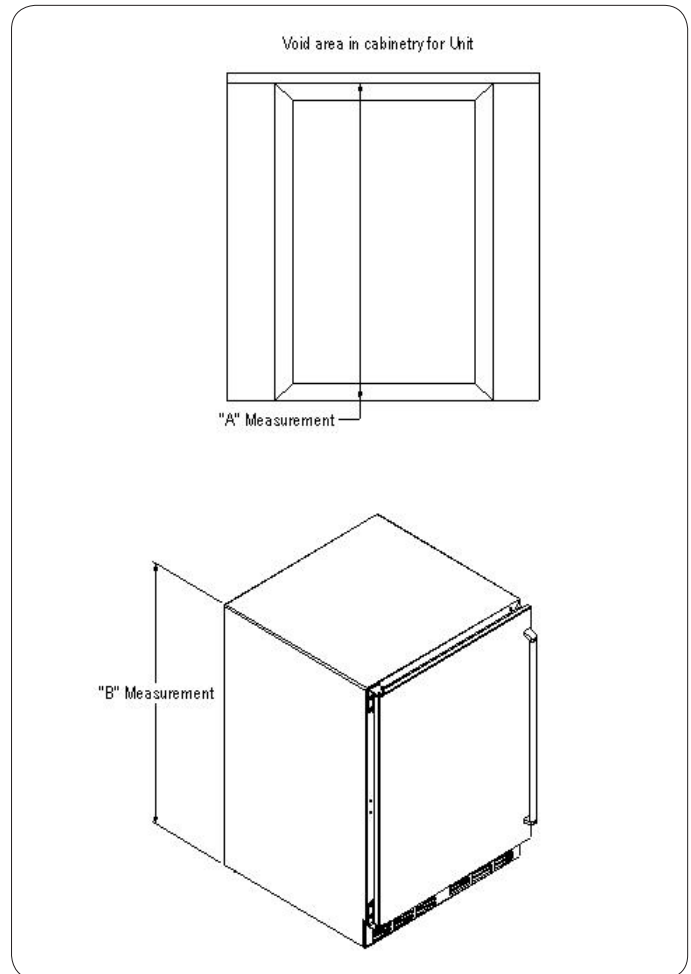

Figure 3. Leveling
3. If all surfaces are level, refer to Figure 3 and perform the following: